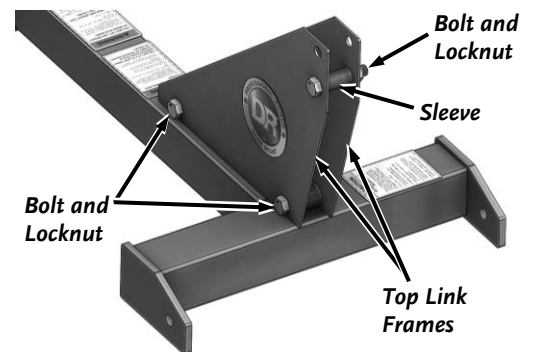

Figure 8
7. Loosely secure the Top Link Frames to the Frame with two M20 X 2.5 bolts and M20 Locknuts using two 20mm Wrenches (**Figure 8**).